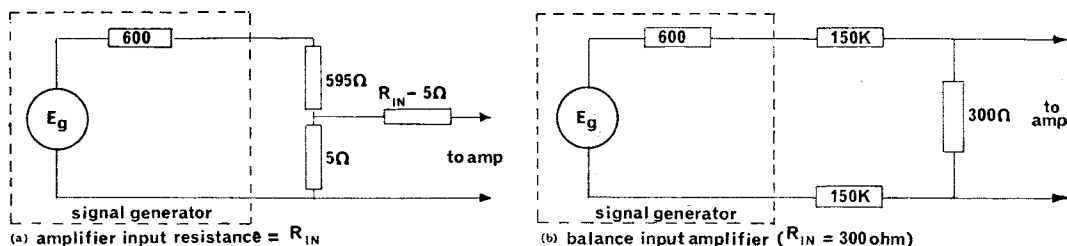

Fig. 4. Impedance matching networks
11. **Amplifier gain/sensitivity tests.** Although amplifier gain and input sensitivity voltage have a precise meaning (British Standard 3860), these quantities are very rarely measured by the technician because of the amount of calculation involved in correcting for impedance matching network losses. In practice an *overall performance* test is specified in the AP and the output and input levels quoted in these tests allow for the effects of the coupling networks *specified* for the tests. Two input networks typical of those used for performance tests are shown in figure 4. When carrying out the tests, the signal generator level is adjusted until a specified amplifier output is obtained. The signal generator e.m.f. must be less than a given figure for this output or the amplifier is classed as unserviceable. The frequency at which the performance test is carried out is also specified in the AP and is the centre frequency of the amplifier response band. The open-circuit voltage (E_g) calibration of the signal generator is used for these tests and the e.m.f. available on the type 16728 is up to 20V r.m.s. on seven overlapping ranges.